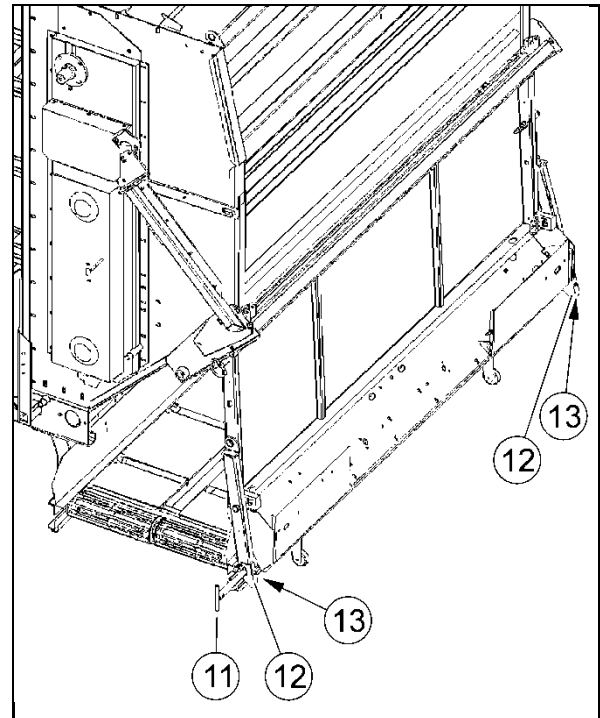

Fig. 72
17. Swivel the crossover conveyor upwards (Fig. 72).
18. Put the crossover conveyor down onto the locating hooks (12) on both sides.
19. Push the locking tubes (11) into the crossover conveyor.
20. Insert the locking bolt (13) into each locating hook (12).